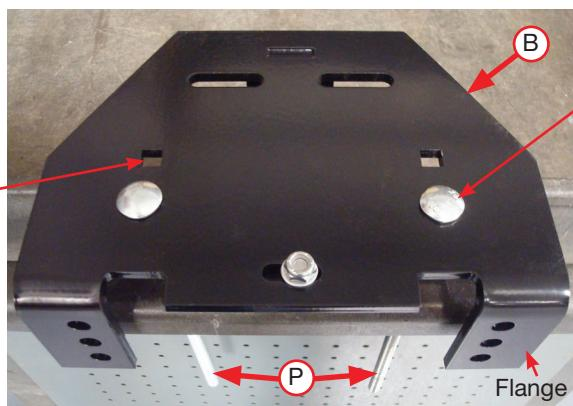

Fig. 12
5. Insert two 3/8"-16 X 10" carriage bolts (P) through the square holes in the lower bracket main plate (B) as shown. **For models with sway bars:** use the holes farthest away from the flanges for the left (driver's) side, and the holes closest to the flanges for the right (passenger's) side installation (Fig. 12). **For all models without sway bar,** use the square holes farthest away from the flange for both sides of the installation.